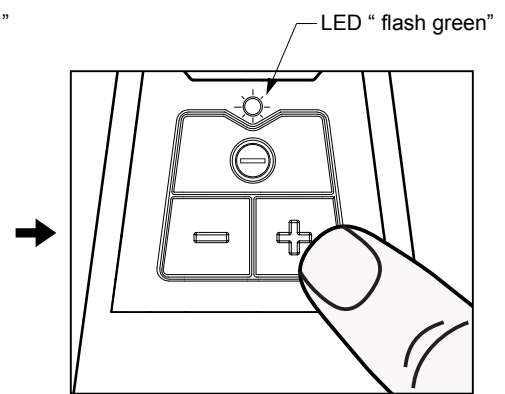

figure 3
3. Adjust the speed by pressing " + " or " - " buttons on the button plate. Press"+ is to raise up to higher speed setting, "- is to lower the speed setting. - see figure 3.